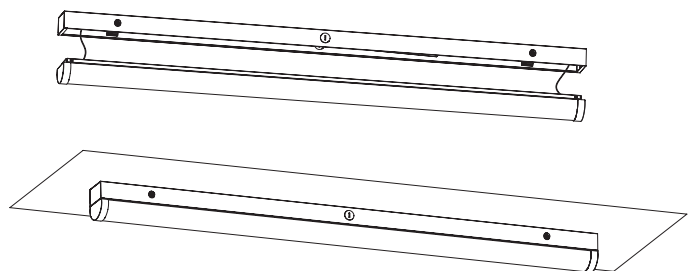

FIG.6
- 5 Push the lens assembly toward the other half of the fixture until it clicks into place.(Figure 6)